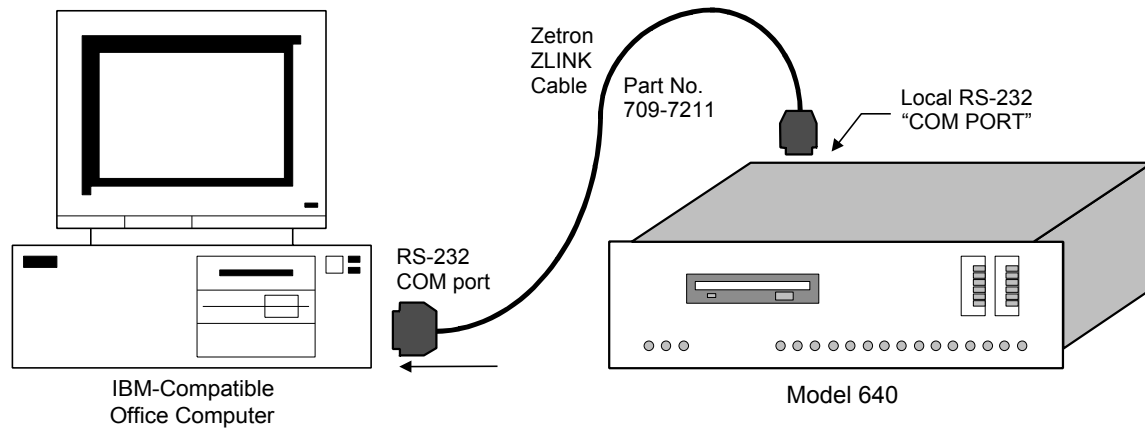

Figure 12. Local Serial Connection to Model 640
- ❑ 3. Make the hardware connections between the computer and the Model 640 as shown in Figure 12. Note that there are several 9-pin serial inputs on the back panel of the paging terminal. The local connection port (labeled “COM PORT”) is located on the lower right back panel of the Model 640 chassis.